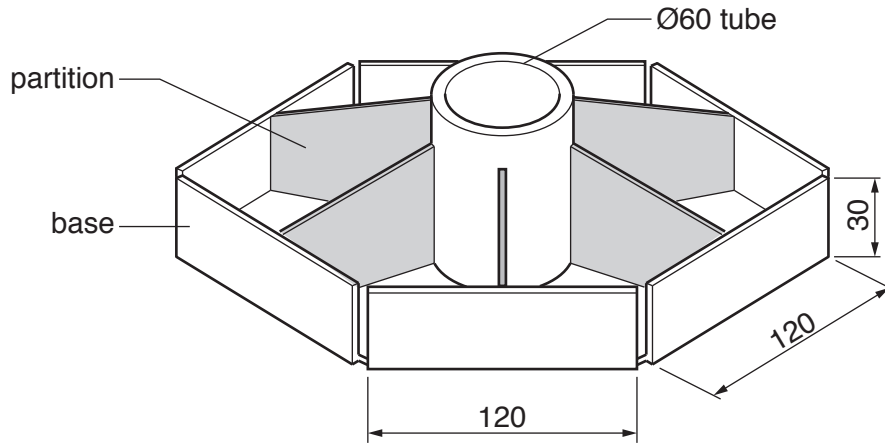

Fig. 9
- 11 Fig. 9 shows a child's desk organiser made from 4 mm thick acrylic. The desk organiser will store paints, brushes, marker pens, crayons and similar equipment.